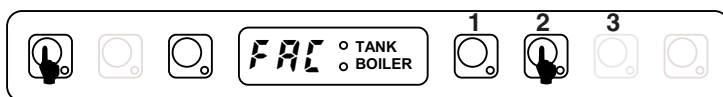

Fig. 32 Factory setting mode.
- Enter into the FACTORY SETTING mode: press and hold down ON/OFF and BUTTON\_2 keys for at least **5 seconds** (Figure 32);